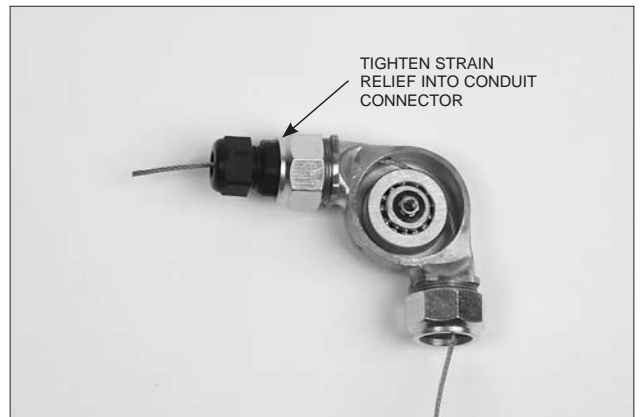

FIGURE 5-66
5. Tighten the body of the strain relief to the conduit connector. See Figure 5-66.